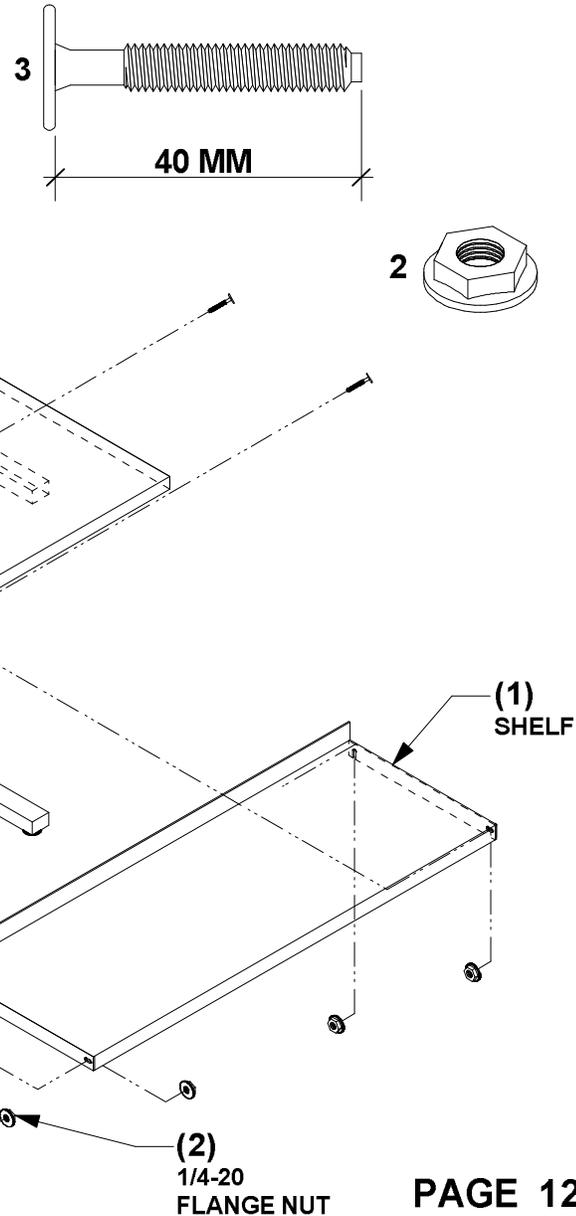

FIGURE 1
1. Insert 1/4-20 x 40 mm bolts (3) into rear holes of leg assemblies and thread 1/4-20 flange lock nuts (2) onto bolts. Note: Do not tighten. Place the shelf (1) onto the rear bolts. Insert 1/4-20 x 40 mm bolts into the front holes of leg assemblies and shelf, thread 1/4-20 flange lock nuts onto bolts. Now tighten front and rear flange lock nuts. (See Figure 1)